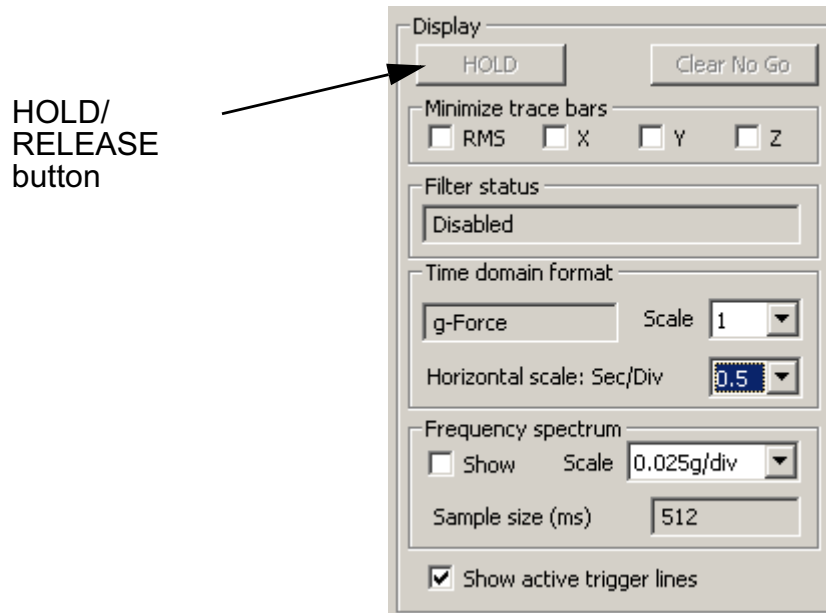

Figure 3.3: Pausing the Trace Display
- To freeze the trace display, click **HOLD** (see Figure 3.3). The **HOLD** button changes to **RELEASE** and the traces stop moving, but the AVS wafer continues to send data to VibeView.